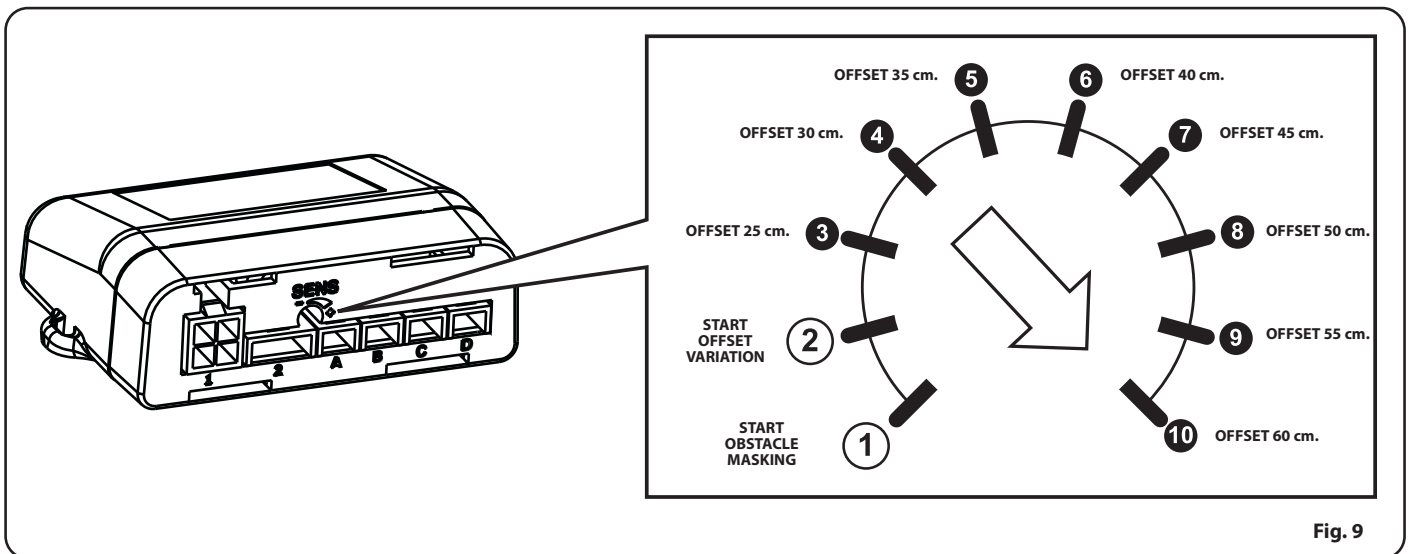

Fig. 9
**NOTE:** before to start the procedure, choose the offset value to be set; See in Fig.9 the corresponding trimmer position (ex. 45cm= Pos.7):
- 1 - Unplug the main connector (1) from the EasyPark control unit, turn on the ignition and engage the reverse gear.
- 2 - Set the trimmer on position 2 (see figure 9).
- 2 - Set the control unit for masking, by setting the trimmer on the step 1 (see fig. 9).